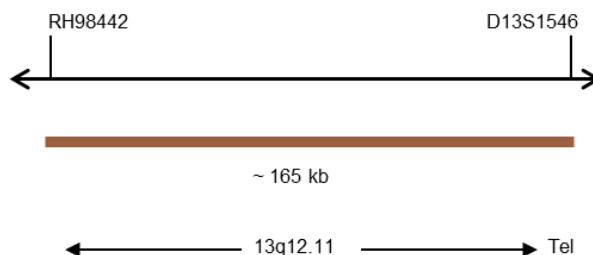

Fig. 1: SPEC 13q12 Probe map (not to scale)
- Digoxigenin-labeled polynucleotides (~1.8 ng/μl), which target sequences mapping in 13q12.11* (chr13:20,609,044-20,776,358) (see Fig. 1).